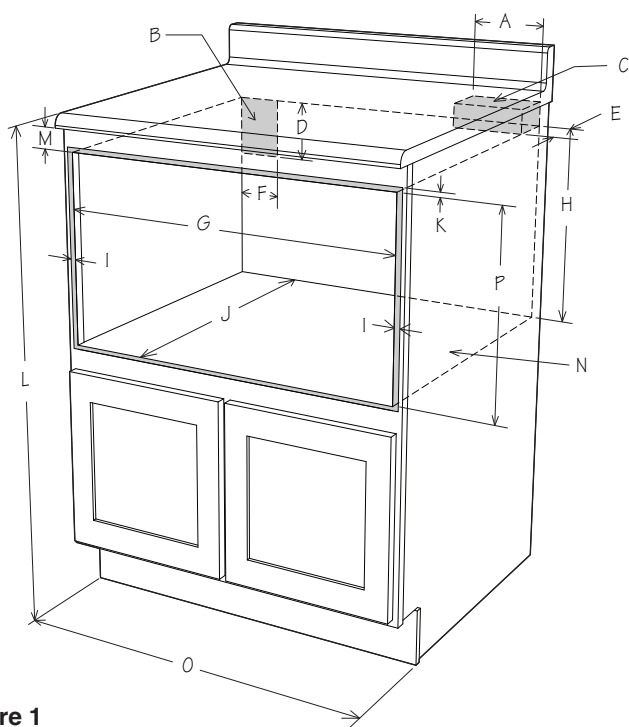

Figure 1
For **SAFETY CONSIDERATIONS** do not install drawer in any combustible cabinetry, which is not in accord with the stated clearances and dimensions on pages 2 - 5. See Figures 1 - 7.
- Dimensions that are shown in Figure 1 must be used. Given dimensions provide minimum clearance. Locate electrical outlet in the shaded area in the upper left-hand corner of the cutout. See Figure 9.
Figures 1 and 2 contain many Microwave Drawer measurements for reference when planning the drawer's location.
To reduce the risk of tipping of the drawer, the Anti-Tip block must be properly installed located 14¹³/₁₆-inches above the floor on which the Microwave Drawer will sit. The 6-inch Anti-Tip block must be provided by the installer. See Figure 1. The Anti-Tip block prevents serious injury that might result from spilled hot liquids.